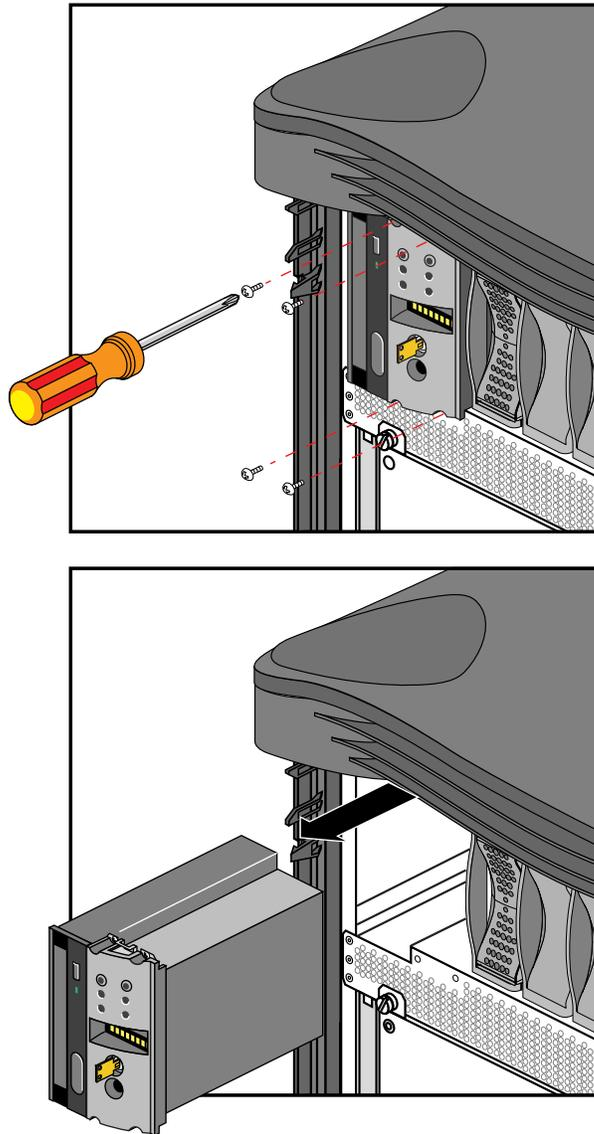

Figure 5-3 Install or Replace the System Controller or CD-ROM Drive
4. Use a #1 Phillips-head screwdriver to loosen and remove the four screws that hold the assembly in place on the chassis, as shown in Figure 5-3.